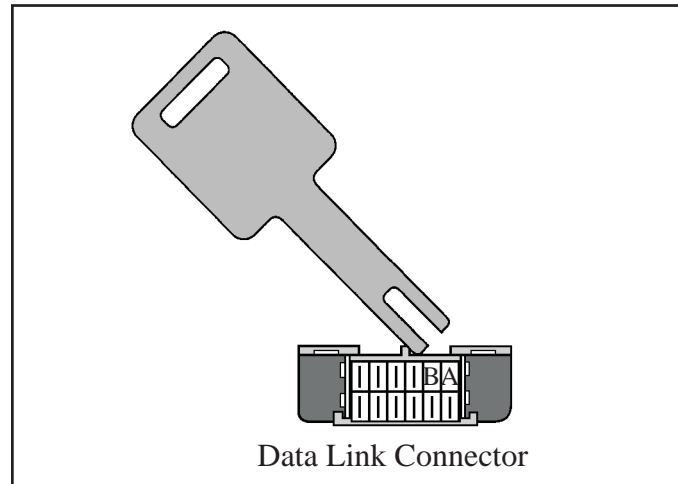

Figure 17
The provision for communicating with the PCM is the data link connector (DLC) which is located under the instrument panel (See Figure 17). The diagnostic trouble code(s) or information flag(s) stored in the PCM's memory can be read either through a hand-held diagnostic scanner plugged in the data link connector or by grounding the diagnostic terminal in the data link connector. Once terminal B (The Diagnostic Terminal) is connected to terminal A (The Internal PCM Ground)
as shown in Figure 17 above, the ignition switch must be moved to the ON position, with the engine not running. At this point, the MIL telltale lamp should flash a Diagnostic Trouble Code (DTC) 12 three times consecutively (**Remember, the MIL telltale lamp is for PCM (EC) diagnostic trouble codes or SHIFT TO D2 lamp on 1991 and 1992 vehicles. The LOW COOLANT/HOT lamp is used on 1993 and 1994 vehicles for PCM (TC) diagnostic trouble codes.**)